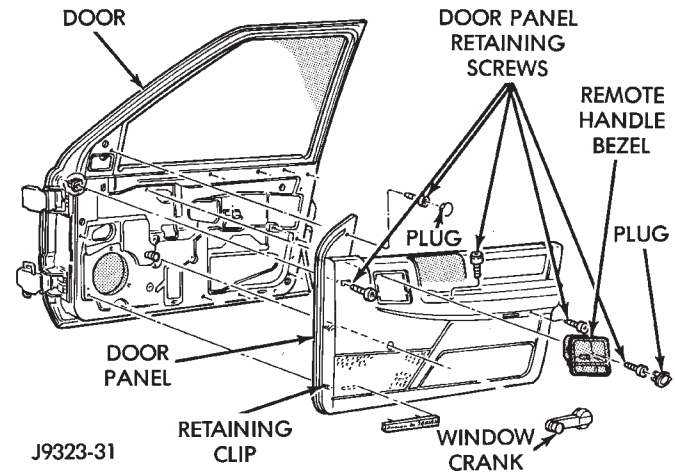

Fig. 3 Door Panel Removal
- (1) Remove screw from demister opening at front of door (front door).
- (2) Remove screw at top of trim panel near mirror (Fig. 3).